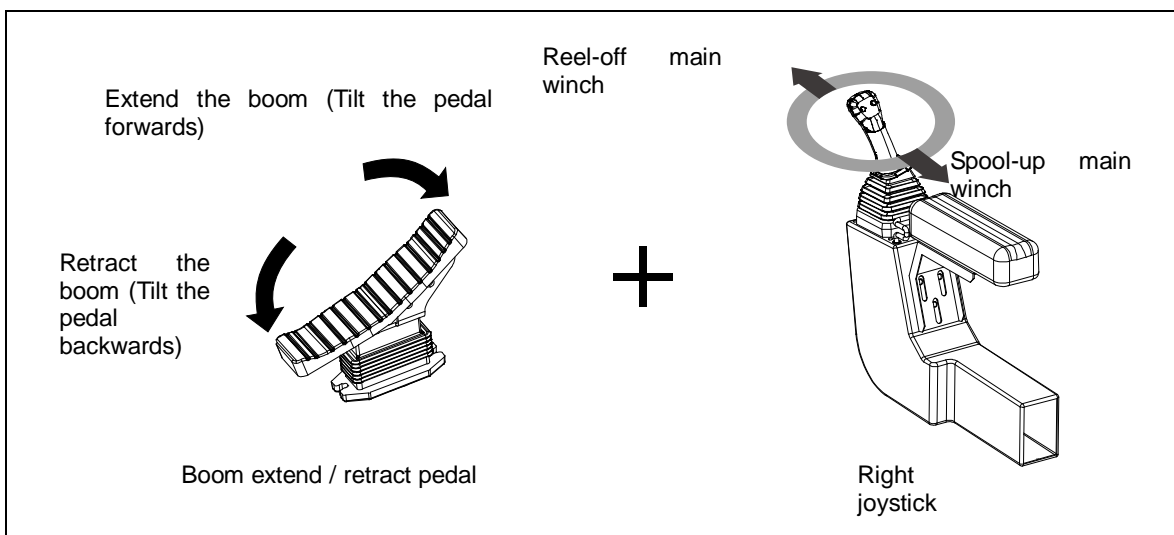

Figure 7-21 Extend or Retract the Boom + Main Winch
- You can extend or retract the boom and move the main hook up or down at the same time. To do this, push the boom extend / retract pedal and push or pull the right joystick. Refer to Figure 7-21.